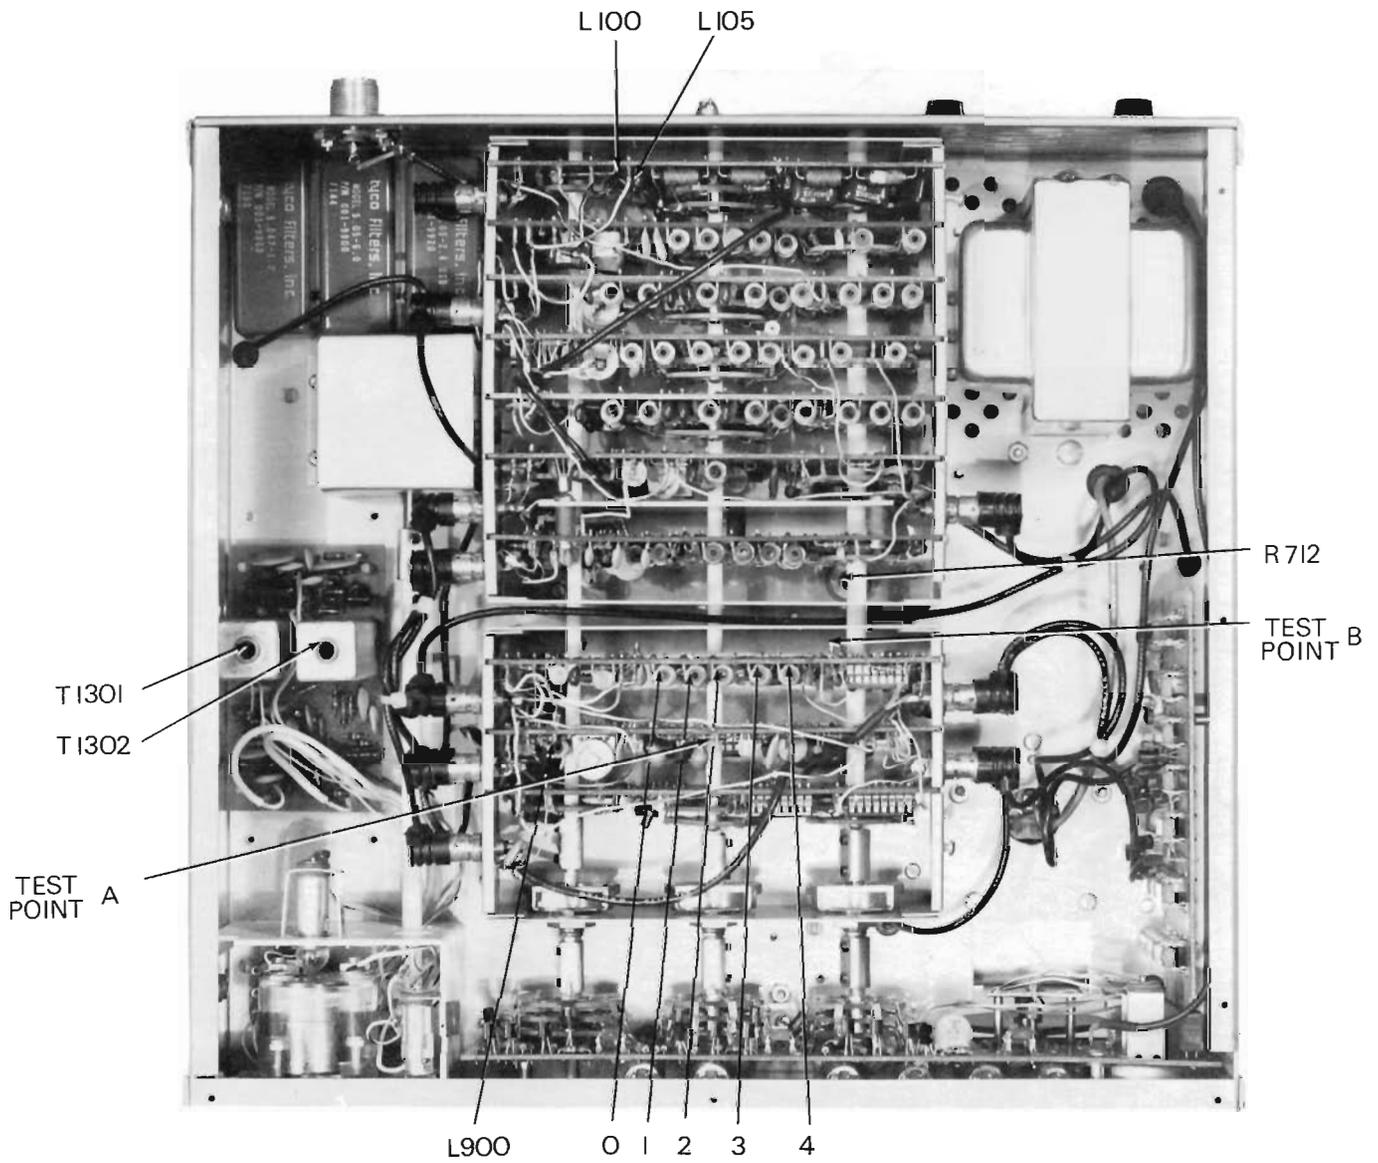

Figure 5-5. Top View with Covers Removed
- b. Refer to figure 5-5. Adjust the BFO transformer T1301 on the outside of the board for maximum DC voltage. This tunes the detector for the normal SSB channel.
- a. Refer to figure 5-5. Set the 0.1 MHz frequency switch to display 0.9 and adjust the variable resistor R712 on the VCO board for 9.5 volts as measured at the ring of the variable resistor.
h. Place a scope probe on test point A shown in figure 5-5 on the Standard board and refer to the sawtooth waveform shown in the lower right hand corner of the Synthesizer schematic figure 5-33. A small horizontal step should appear approximately 1/3 of the way up on the leading edge of every other cycle.
- a. Refer to figure 5-5. Attach an RF probe to test point B on the Balanced Mixer card.